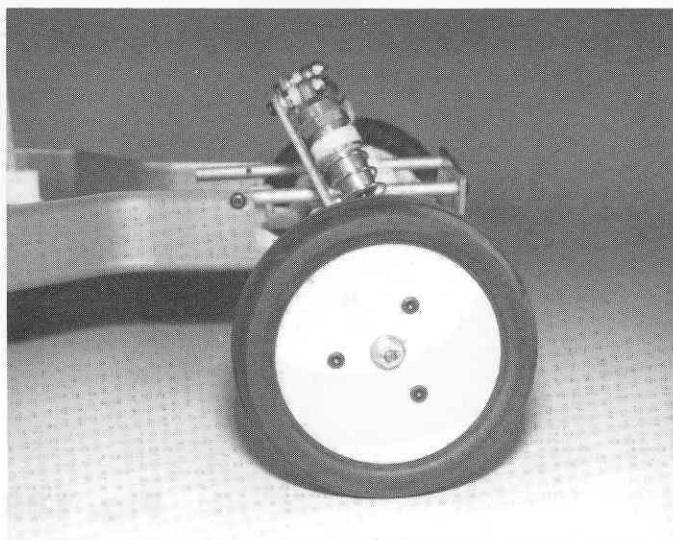

Fig. 195
□ **Fig. 195** Oil the bushings and slip the wheels on the front axles. Spin the wheels. They should spin true. If not, re-mount the tires. Then install the steel flat washer and the locknut on each wheel.